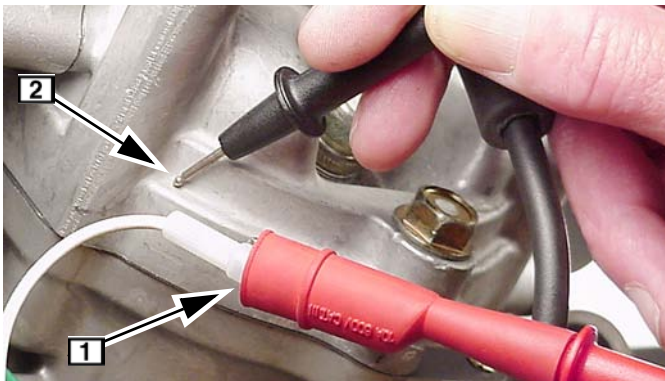

Fig. 17
2. Insert red meter test lead into equipment side of wiring harness connector (WHITE WIRE) **1**, Fig. 17.